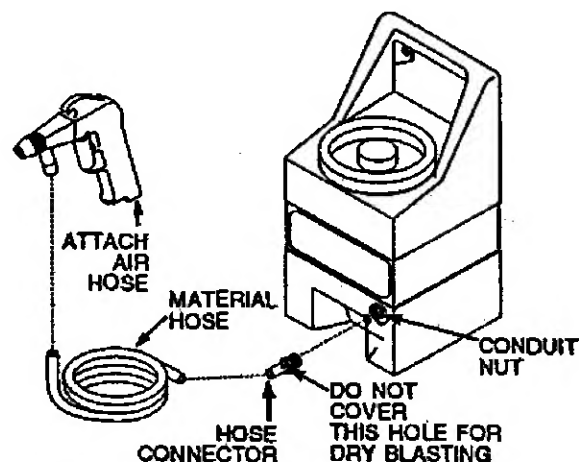

Figure 5 - Model AT121002AJ - 60 LBS
2. Attach the material hose to the hose connector. Attach the opposite end of the material hose to the gun (See Figure 5).